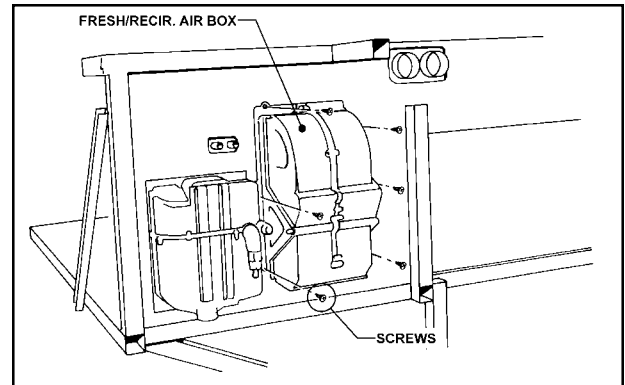

Figure 54: Fresh/Recirc Air Box
- 4) Remove fresh/recirculate air box. (Fig. 54)